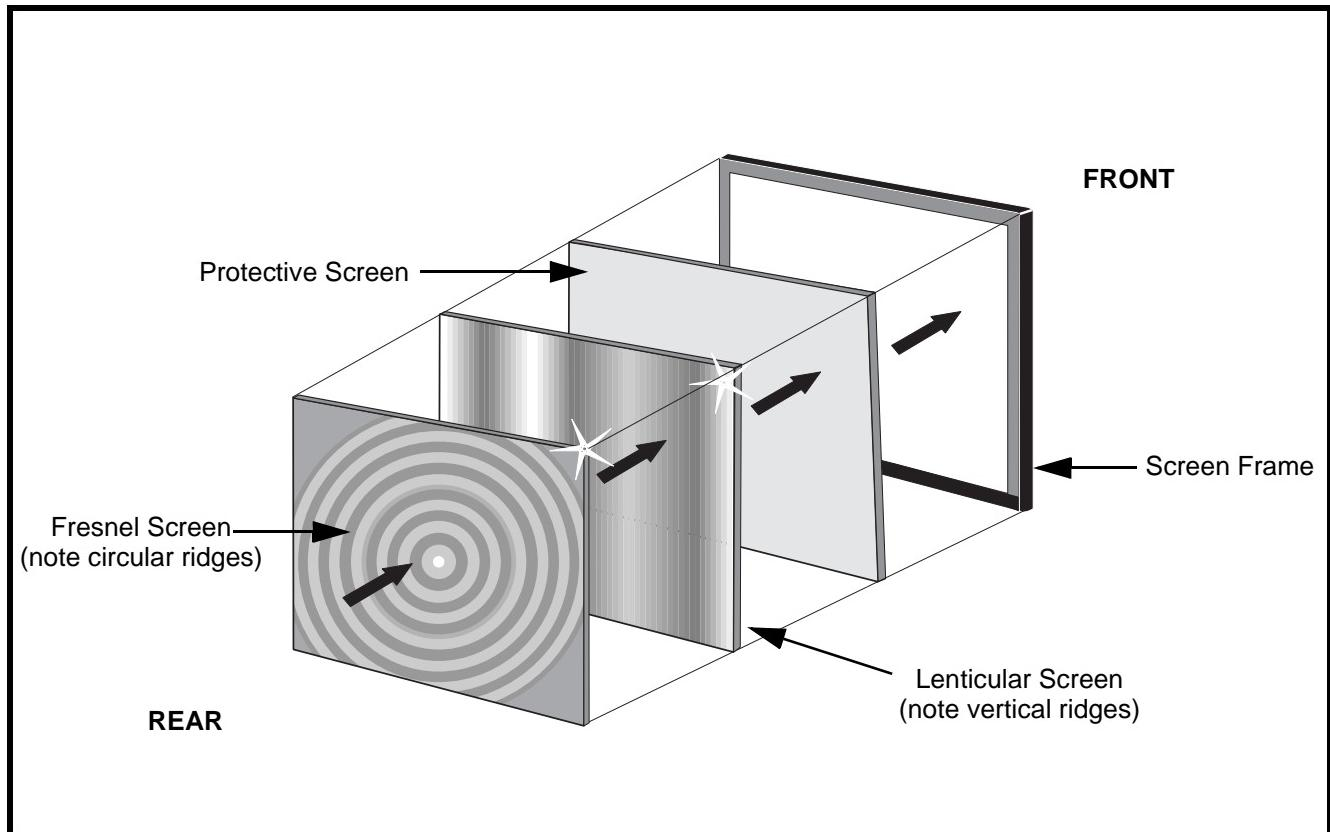

Figure 11. Screen Assemblies
3. Note exact orientation of each screen. The orientation and order of the screens is critical for projecting pictures properly. Detailed screen assembly can be seen in Figure 11.